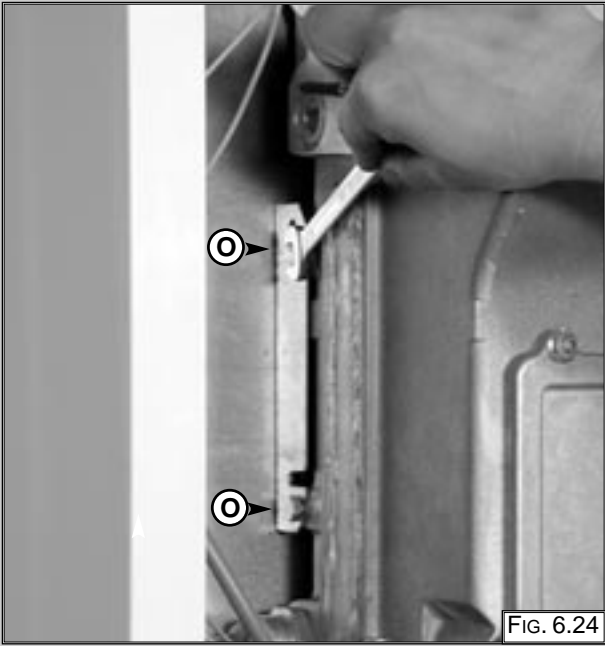

FIG. 6.24
3. Loosen the two nuts "O" (FIG. 6.24);